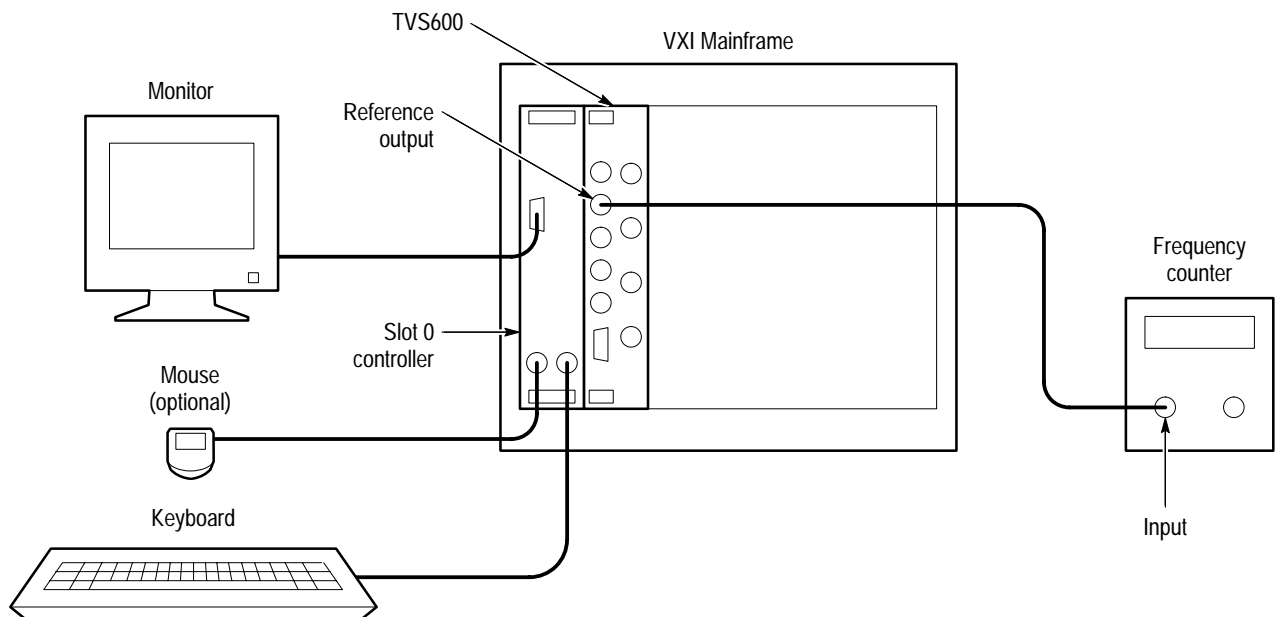

Figure 4-2: Time reference test setup
1. Use a coaxial cable to connect the frequency counter input to the REFERENCE OUTPUT connector (see Figure 4-2).